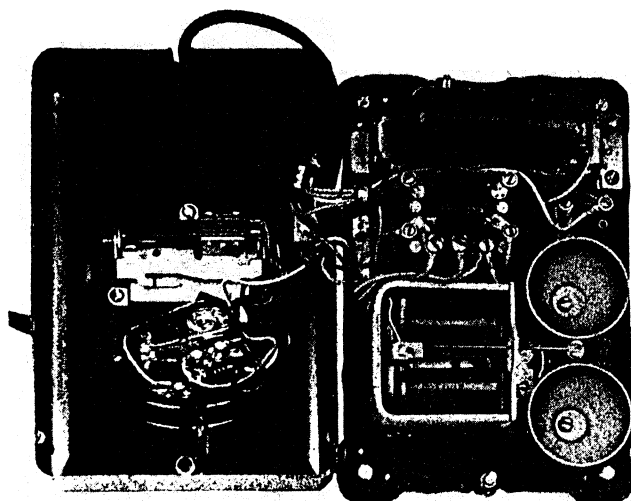

Fig. 8 — 306C Telephone Set — Interior
2.06 The 306-type telephone set is for use on common battery 4-party full selective and 8-party semiselective service. It is similar to the 302-type except that it employs an electron tube and a B3A ringer instead of a ringing capacitor and a B1AL ringer. (See Fig. 8.)